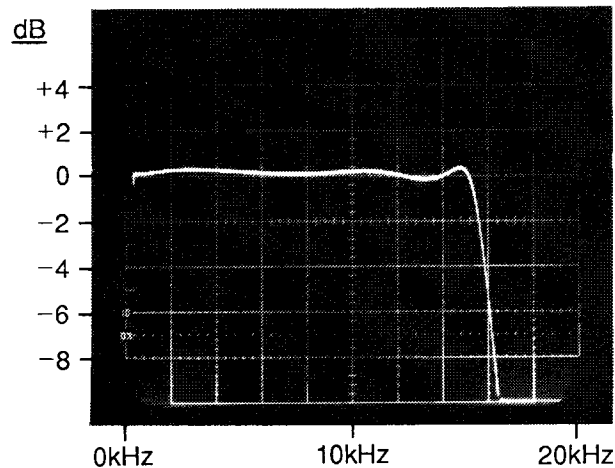

Fig. 4-1: Overall De-emphasized Response
- M  Adjust PRE-EMPH trimmer R618 to achieve maximally flat response ( $\pm 0.75$ dB or flatter from 50–15,000Hz), similar to that shown in Fig. 4-1.
- S  Adjust PRE-EMPH trimmer R652 to achieve maximally flat response ( $\pm 0.75$ dB or flatter from 50–15,000Hz), similar to that shown in Fig. 4-1.